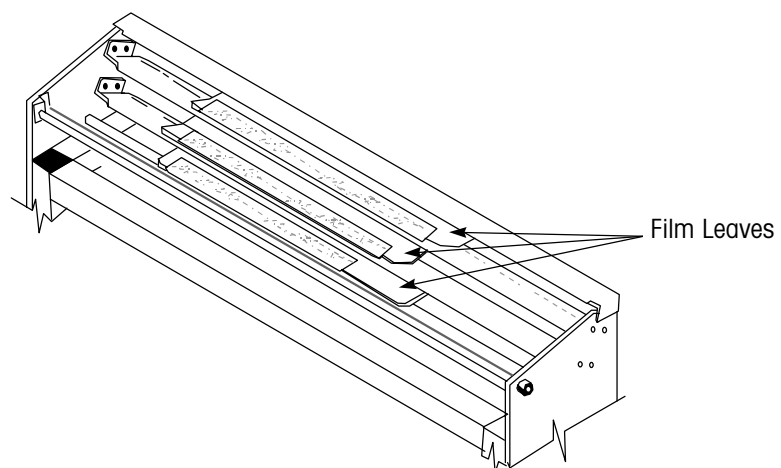

Figure 5-3: Film Leaf
Tear or cut the end of the film straight across, and fold the end of the film neatly over the Film Leaf. (Figure 5-3).
Tear or cut the film straight across, and fold the end of the film neatly over the Film Leaf. (Figure 5-3)
7. To change to a different film width, lift the end of the film from the black Film Retaining Tube, and drape it back over its Film Leaf. (Refer to Figure 5-3)